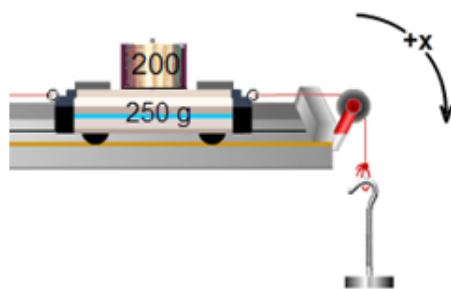

Figure 7: the " x -direction"
- 2 This also includes direction, if you don't mind a minor 90° bend in the middle. Motion left and right by the cart is the same as motion up and down by the hanger. The pulley is just redirecting it. **We'll work with the bendy direction and say that the positive direction is as shown in Figure 7. For the cart, the $+x$ -direction is to the right. For the hanger, it's downward.**